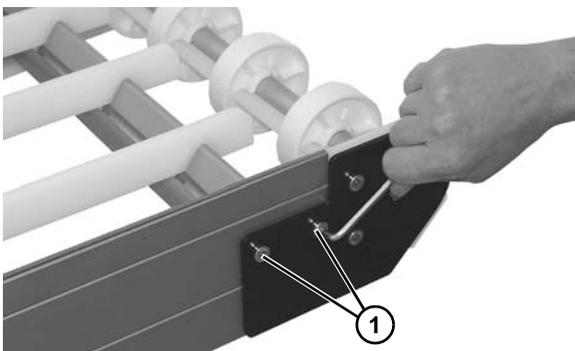

Figure 59
2. On one side of conveyor, remove the two socket head screws (Figure 59, item 1).